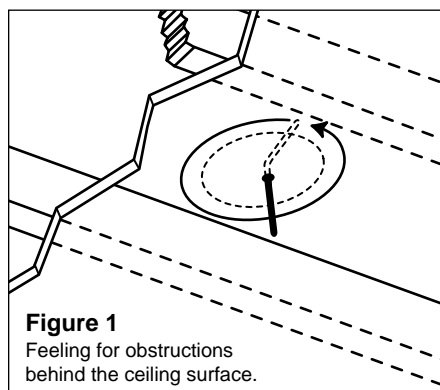

Figure 1
1. Cut a foot-long piece of coat hanger. Bend the wire (creating a right angle) leaving 4-3/4" at one end for the CM-650BG (this allows for the extra width of the mounting dogs). Poke the "L-shaped" wire into the pilot hole and turn it in a complete circle and move it into the ceiling cavity to make sure you have approximately 3-3/8" of depth. If the coat hanger movement is obstructed by anything, fill the hole(s) with spackle and try another location. (See Figure 1).